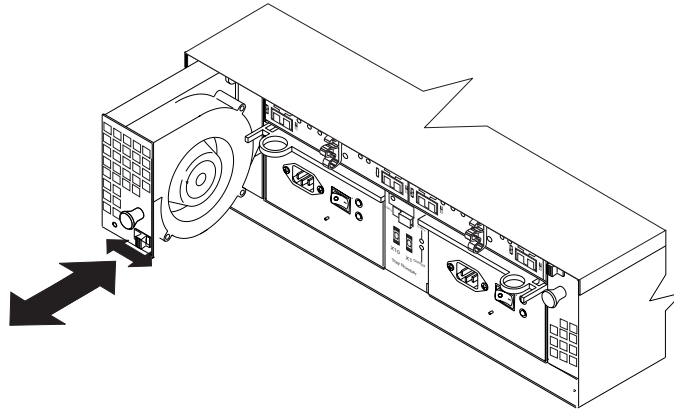

Figure 20. Replacing a fan
2. Ensure that you move the fan latch in the same direction as the arrow before you slide the fan all the way into the bay. If the fan does not go into the bay, rotate it 180° (see Figure 20 on page 29).